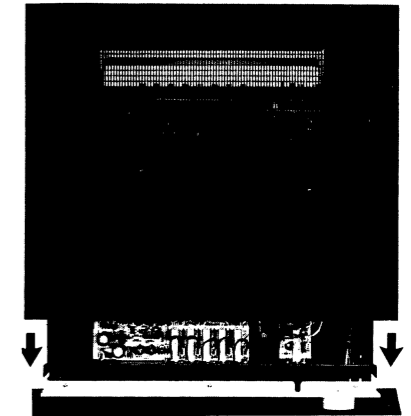

Fig. 2
- Turn the surface of the unit upward as shown in Fig. 2, and take out the chassis.